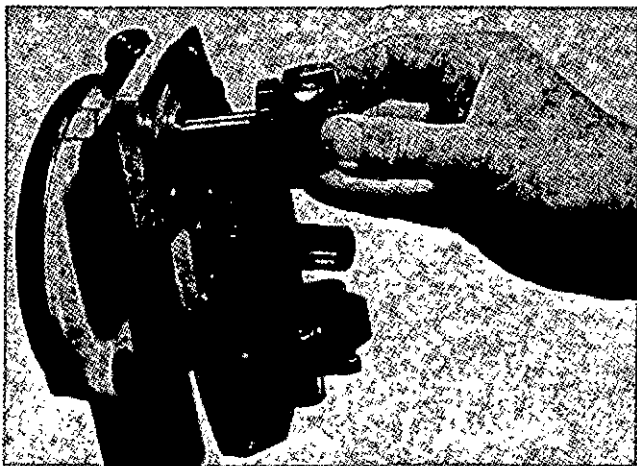

Fig. 3-20, (F5402). Install the VS governor weights into the cover.
6. To install the upper weight carrier, (with bearing only) press against the shaft inside of the carrier or use ST-1231. If the cover cools off, this can require pressing, Fig. 3-20.